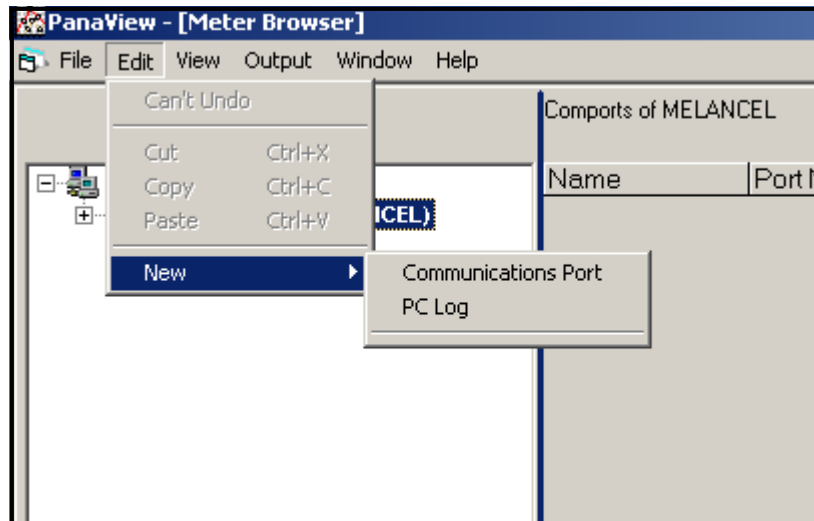

Figure 18: Edit Menu
3. Click on the "New" menu option to select it, and a submenu opens with two choices on it (see *Figure 18* below).